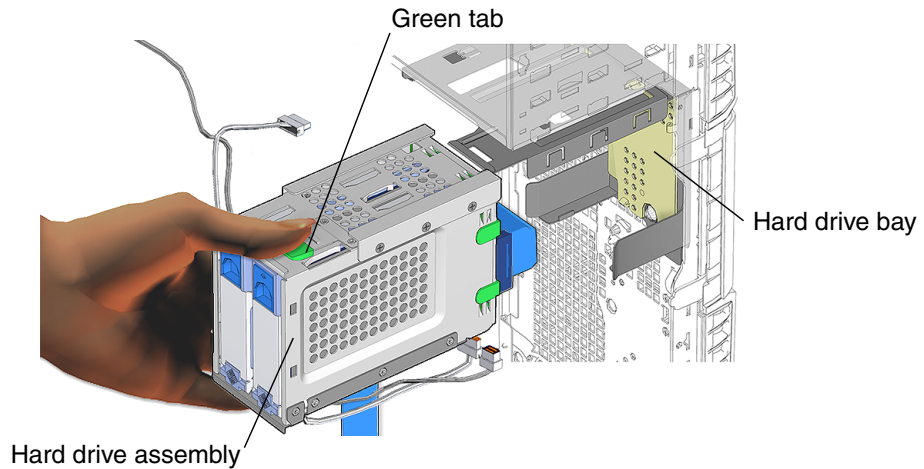

FIGURE 10-15 Removing the Hard Drive Assembly
2. Release the hard drive assembly from the hard drive bay (FIGURE 10-15).